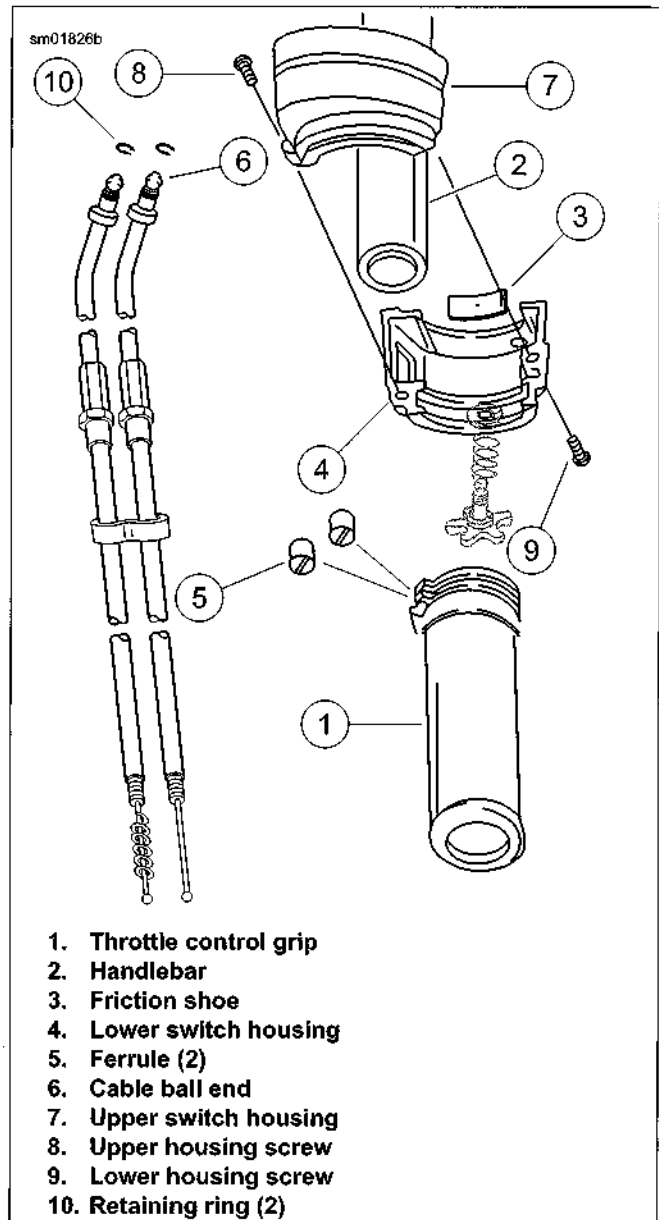

Figure 2-120. Throttle Control
3. See Figure 2-120. Connect cables:
- a. Ferrule grip notches at top, slide throttle control grip (1) over end of right side handlebar (2) until it bottoms against closed end. Pull grip back about 1/8 in (3.2 mm) to prevent binding.
- b. Install friction shoe (3) in lower housing.
- c. Engage housing (4) into throttle control grip.
- d. Fit ferrules (5) over cable ball ends (6).
4. Install upper switch housing (7) over handlebar and lower housing:
- a. Install upper (8) and lower housing screws (9).